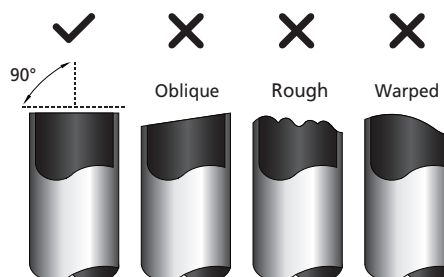

Fig. 6.3
3. Make sure that the pipe is cut at a perfect 90° angle. Refer to Fig. 6.3 for examples of bad cuts.